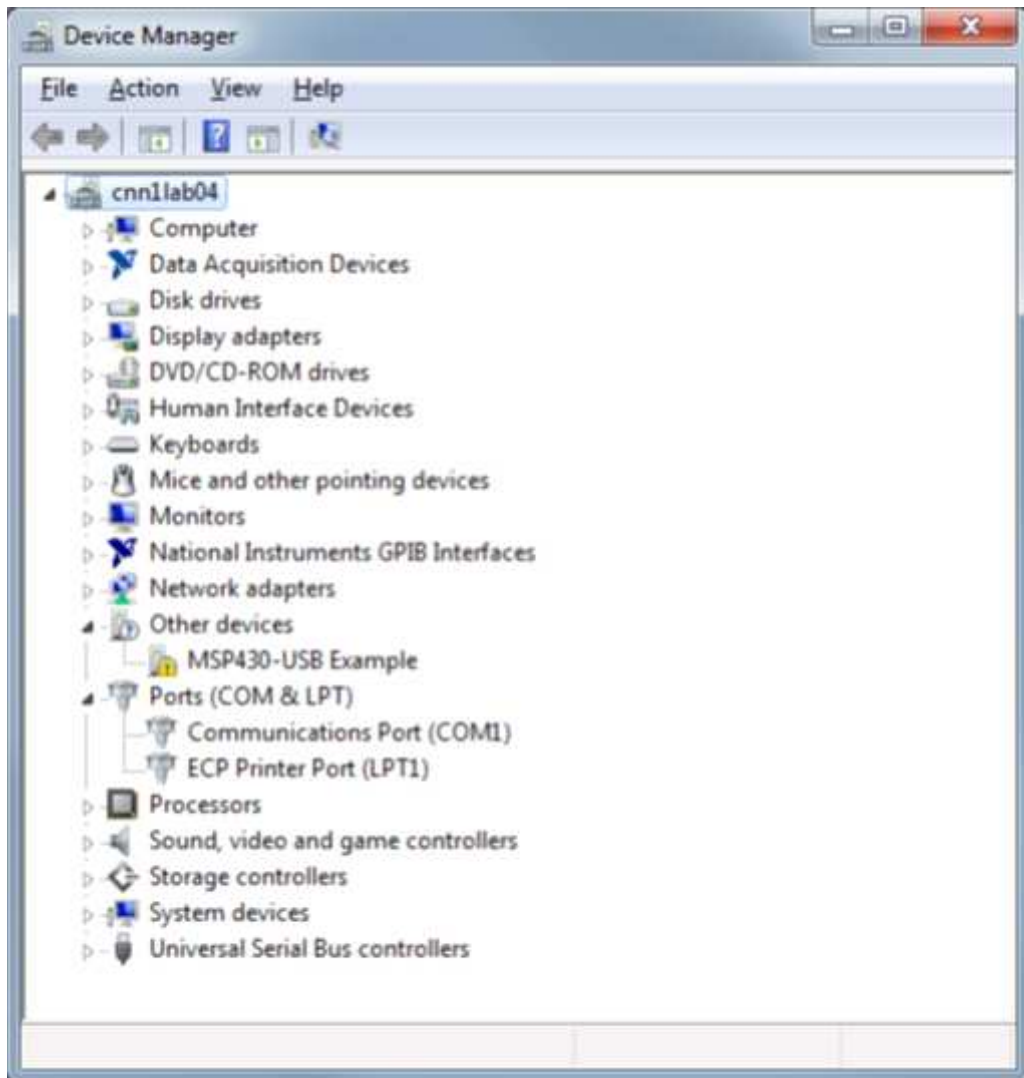

Figure 24. Update Driver Software
4. Before launching the LM63LM64LM96x63EVM software, connect the LM63LM64LM96x63EVM board to a USB port of your PC. Go to Device Manager and find “MSP43-USB Example” (see Figure 24). Right click and select Update Driver Software.